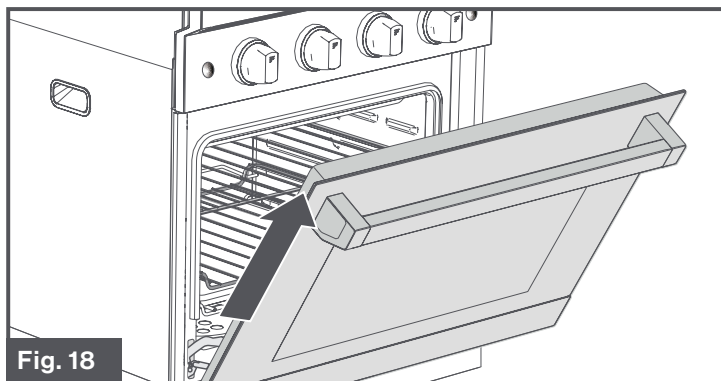
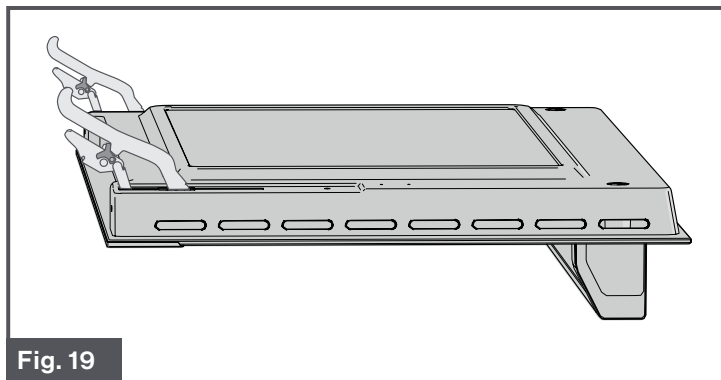

Fig. 18
Fig. 19
5. Holding the door firmly on the left and right sides using both hands, pull the door straight out of the hinge slots. (Fig. 18 and Fig. 19)